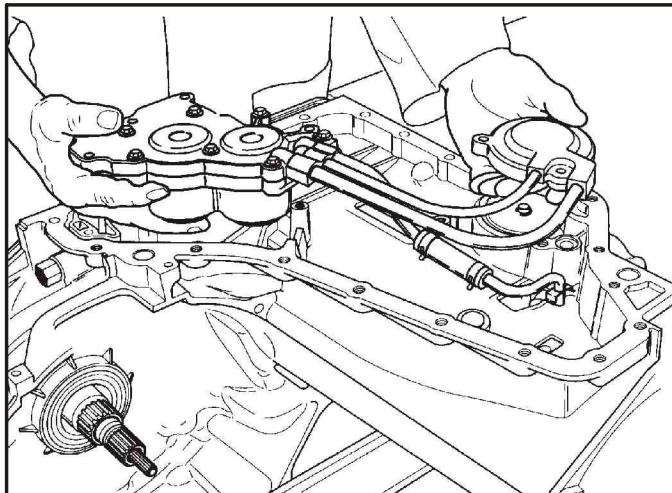

Figure 200
10. Ensure that the feed pipes are still assembled correctly in the pre-assembled accumulator housing and the 2-1 manual servo cover, shown in Figure 200.
11. Install the pre-assembled accumulator housing, 2-1 manual servo cover and feed pipe assembly onto the transaxle as an assembly, as shown in Figure 200.